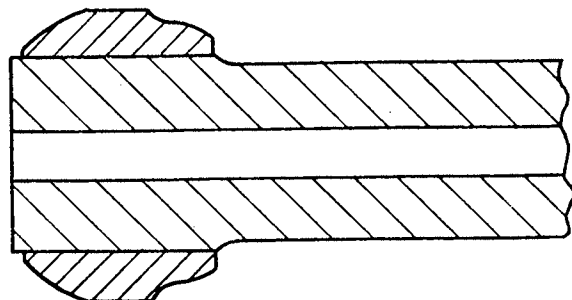

Fig. M.13. High Pressure Fuel Pipe Olive.
For standardisation purposes, high pressure fuel pipe assemblies are now supplied with olives fitted as shown in Fig. M.13. The earlier type pipe assemblies with olives fitted in the reversed position are still satisfactory. The exception is T6.354(M) engines where the olives should always be fitted as illustrated.